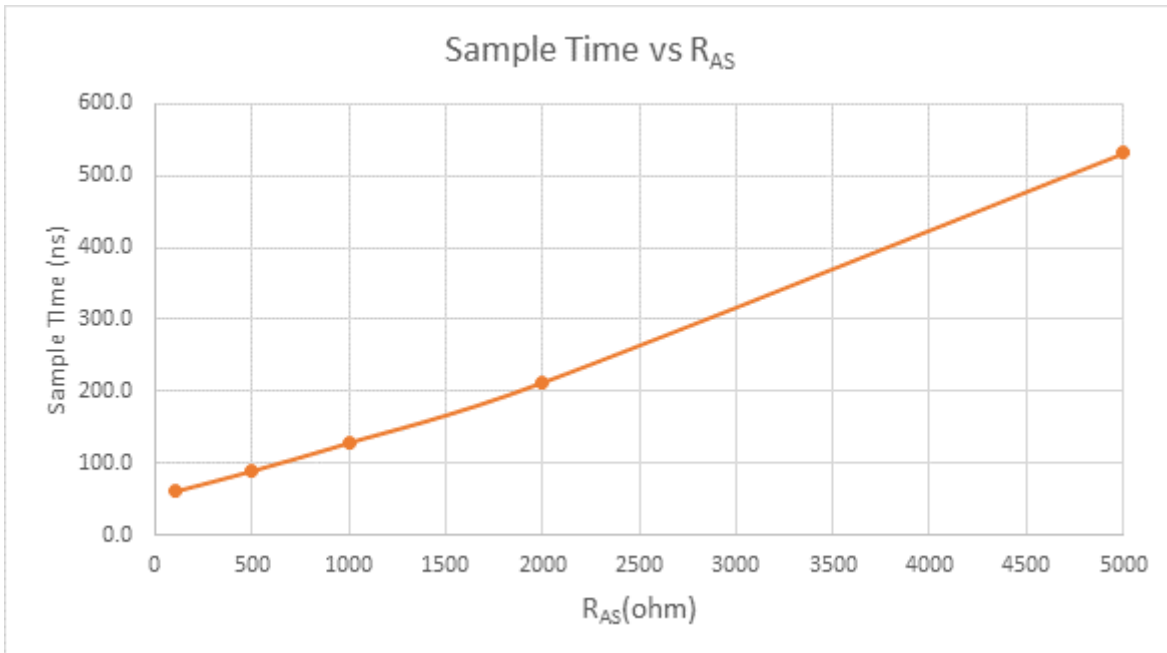

Figure 33. Sample time VS.  $R_{AS}$
3 See Figure 33, "Sample time VS. RAS".
- 5 See Figure 33, "Sample time VS. RAS".